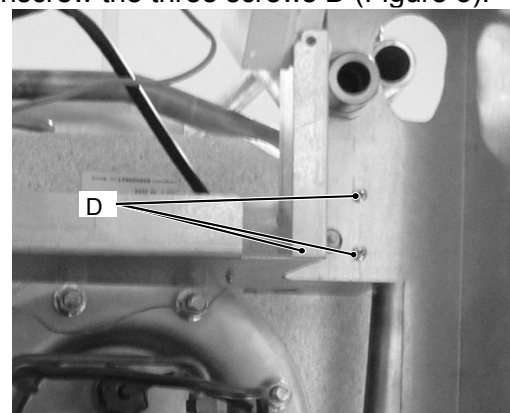

Figure 3
- 3) Unscrew the three screws D (Figure 3).